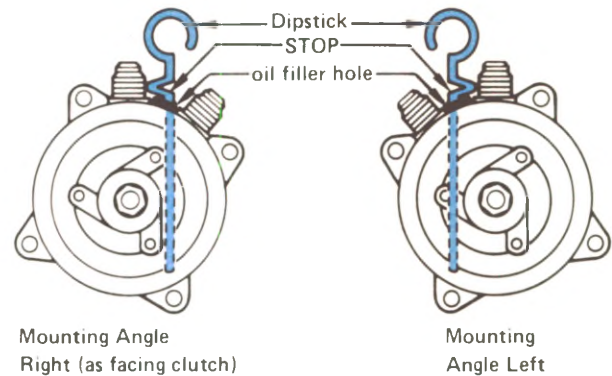

Fig. 3-17 — Sankyo Compressor Dipstick View
3. Insert the dipstick fully. Be sure the dipstick faces the right way. See Figure 3-17.